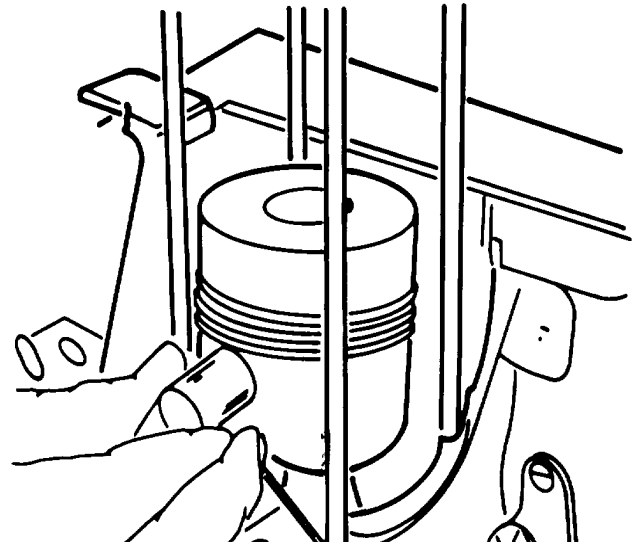

Figure A-17. Piston Pin
- (1) Pull out the piston pin. If the pin does not come out easily, insert a hook (such as a bent coathanger) through the center of the pin and pull while gently rocking the piston. (Figure A-17.)